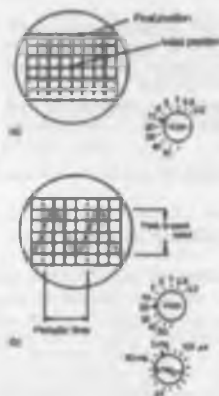

Figure 10.14
- (i) With direct voltage measurements, only the Y amplifier 'volts/cm' switch on the c.r.o. is used. With no voltage applied to the Y plates the position of the spot trace on the screen is noted. When a direct voltage is applied to the Y plates the new position of the spot trace is an indication of the magnitude of the voltage. For example, in Fig. 10.14(a), with no voltage applied to the Y plates, the spot trace is in the centre of the screen (initial position) and then the spot trace moves 2.5 cm to the final position shown, on application of a d.c. voltage. With the 'volts/cm' switch on 10 volts/cm the magnitude of the direct voltage is $2.5\text{ cm} \times 10\text{ volts/cm}$, i.e. 25 volts.
- (ii) With alternating voltage measurements, let a sinusoidal waveform be displayed on a c.r.o. screen as shown in Fig. 10.14(b). If the time/cm switch is on, say, 5 ms/cm then the periodic time T of the sine wave is $5\text{ ms/cm} \times 4\text{ cm}$, i.e. 20 ms or 0.02 s. Since frequency